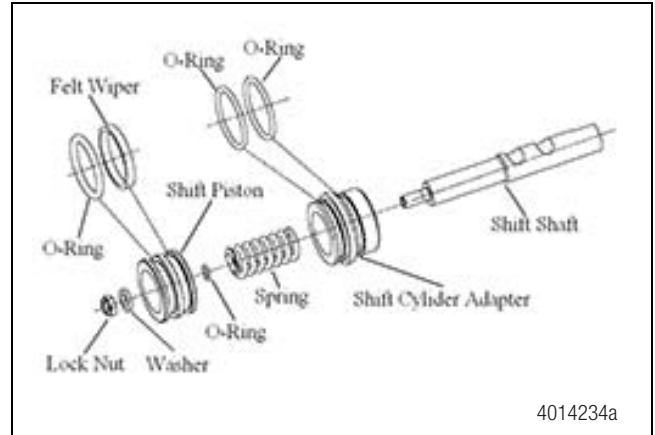

Figure 6.44
6. Install a new piston-to-shaft O-ring over the threaded portion of the shaft. Slide the spring over the shaft. Place the nylon stop ring over the shaft and spring. Install a new piston O-ring in the outer groove in the piston. Soak the air shift piston felt strip in gear oil and install it in the inner groove. Figure 6.44.